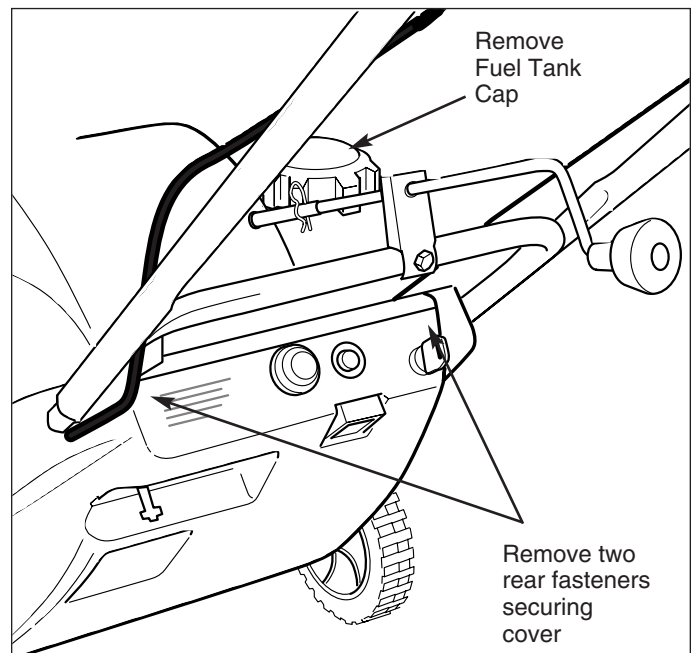

Figure 12. Remove and/or loosen Cover Screws
2. Remove the two rear fasteners securing the back of the cover housing. (Figure 12).